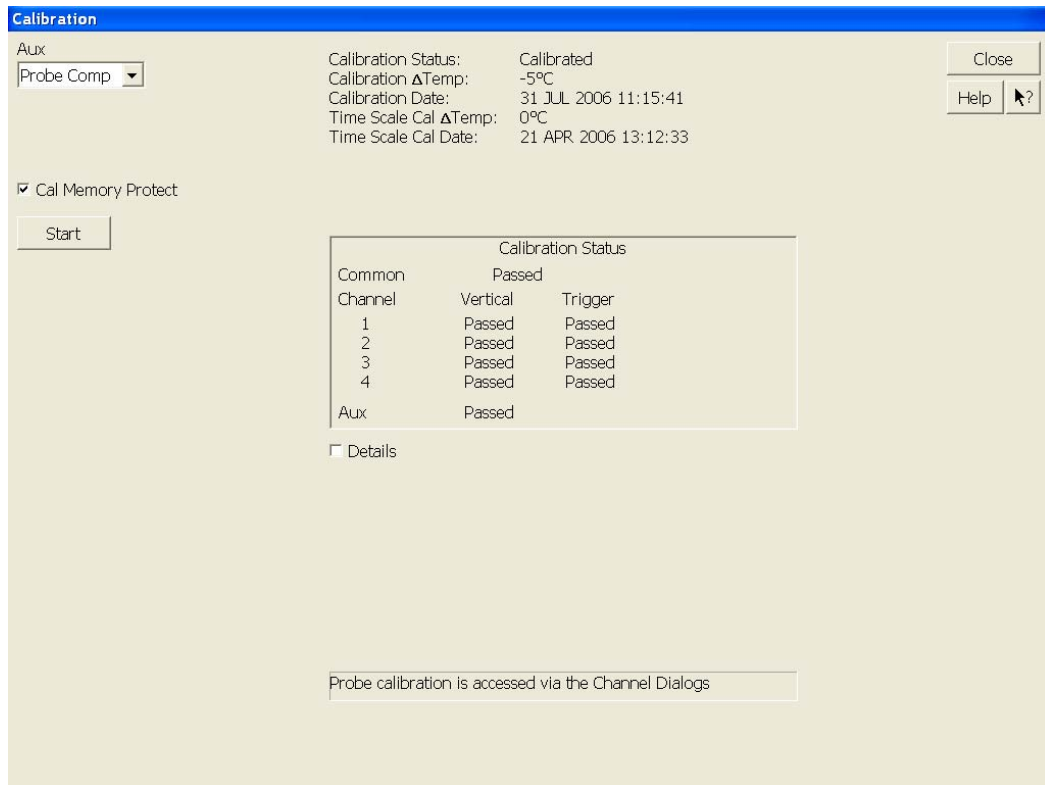

Figure 26 Oscilloscope Calibration Window
- 4 Referring to Figure 26 below, perform the following steps to start the calibration: